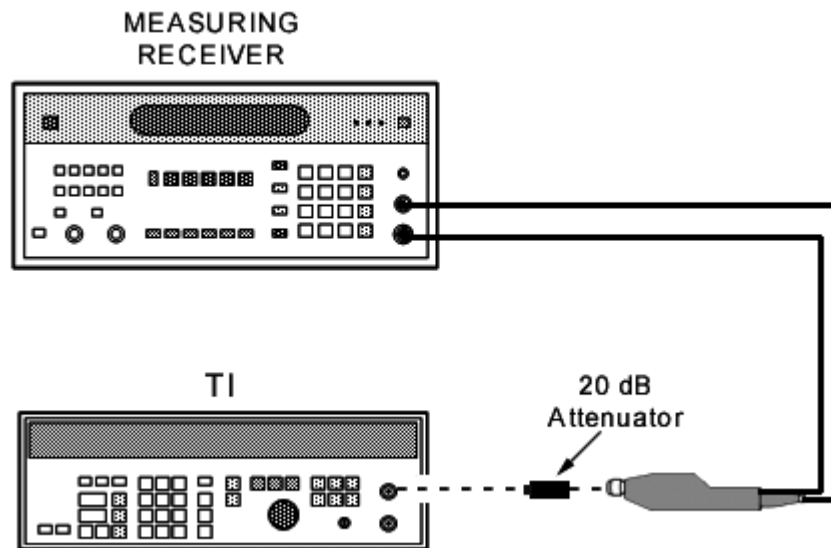

Figure 5. Attenuator accuracy.
- (1) Connect equipment as shown in figure 5.